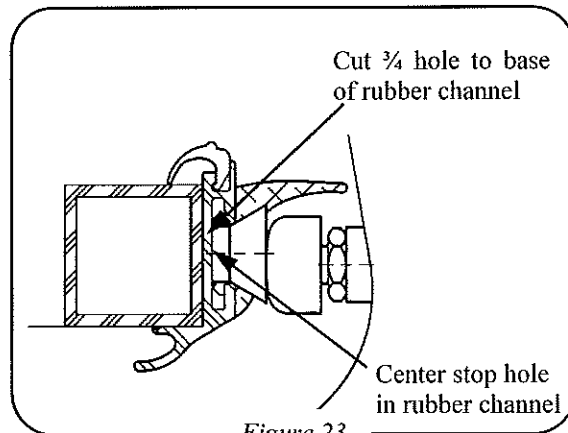

Figure 23
12. Using a 3/4" diameter hole saw (with a 1/4" pilot bit) cut a hole through the portal rubber to the base of the portal frame rubber channel at each location marked in step 12 (*Figure 23*).